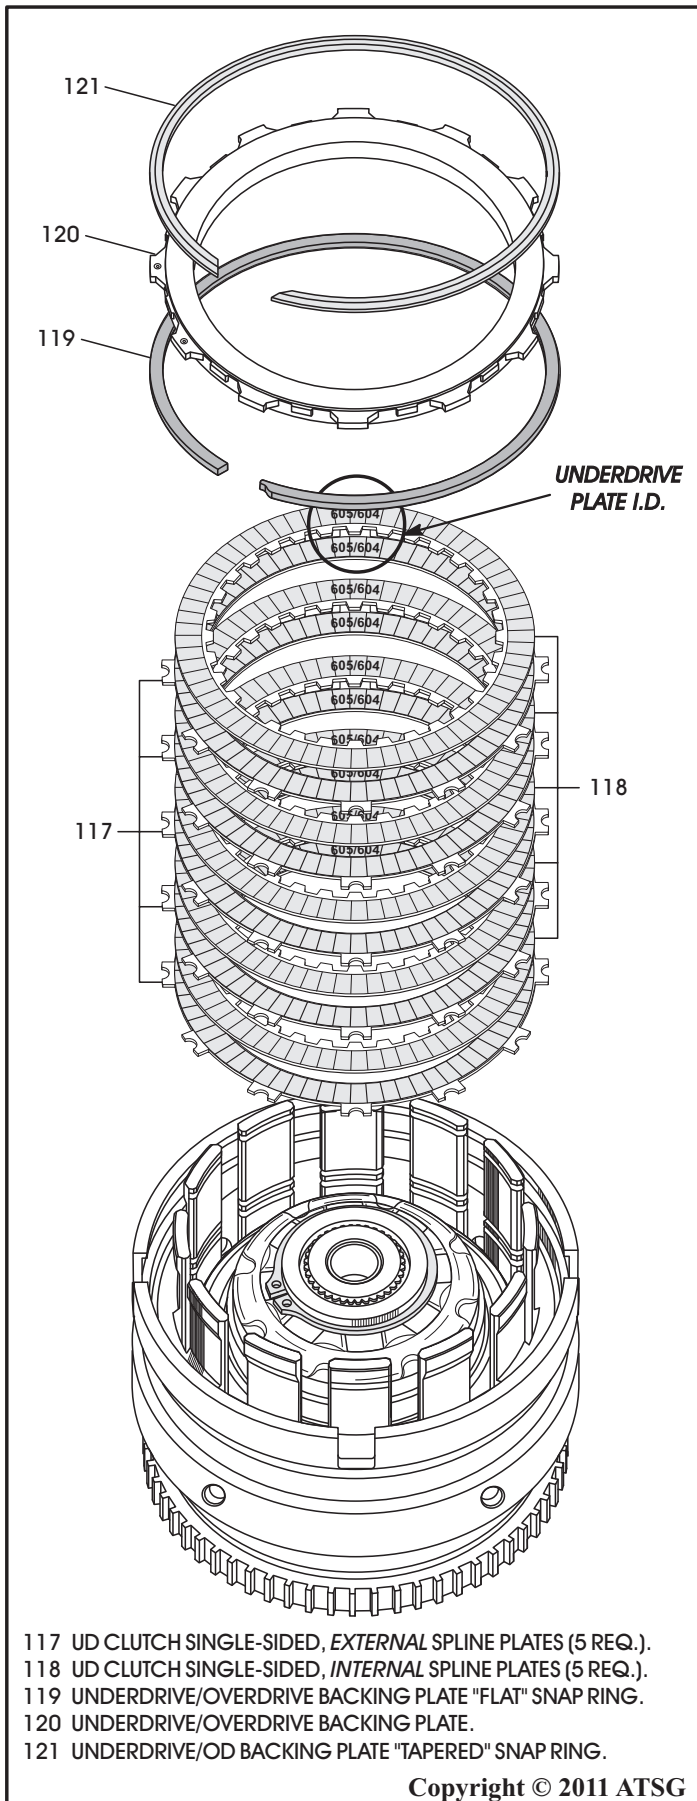

Figure 101
**Special Note:** The 68RFE underdrive plates, both inside and outside spline plates, can be identified by numbers "605/604" laser-burnt into friction material facings (See Figure 101).
21. Install the "single-sided" underdrive clutch pack beginning with an outside spline plate with the lining facing up and alternating with the inside spline plates with lining facing up, as shown in Figure 101 (5 of each are required).
22. Install the underdrive/overdrive backing plate lower **flat** snap ring into the housing in the lower groove, as shown in Figure 101.
23. Install the underdrive/overdrive backing plate into the input clutch retainer, with the big step facing down, as shown in Figure 101.